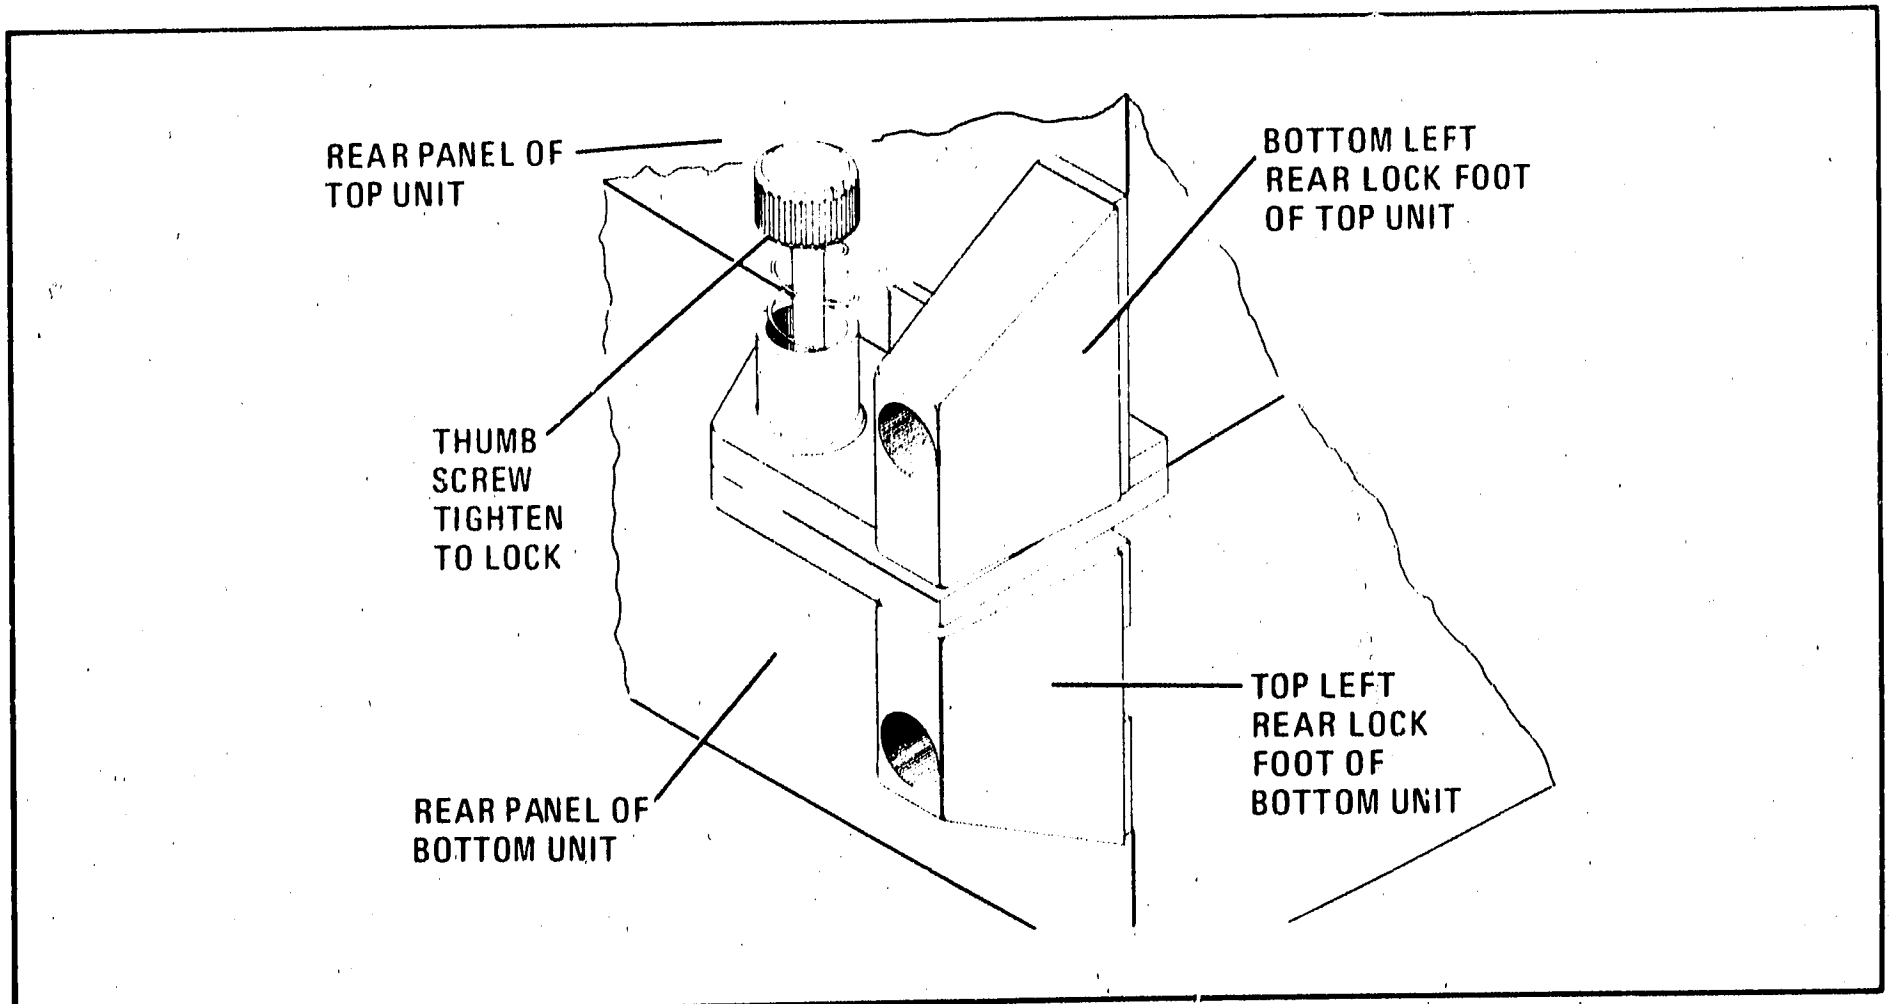

Figure 2-4. Lock Feet, Left Side
- c. Remove the two bottom rear feet from the 8505A (lower unit) and replace with two lock feet which contain thumb screws. There is a left one (HP Part Number 08505-20156) and a right one (HP Part Number 08505-20158). See Figure 2-4 for proper placement.
- e. Remove the two top rear feet from the 8503A and replace with top left rear lock foot (HP Part Number 08505-20155) and top right rear lock foot (HP Part Number 08505-20157). See Figure 2-4 for proper placement.